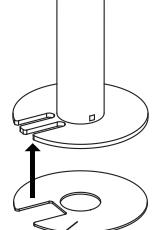

Figure 7
3. Attach Soft Pad(r) to the Grommet Base Plate(k), see Figure 7.